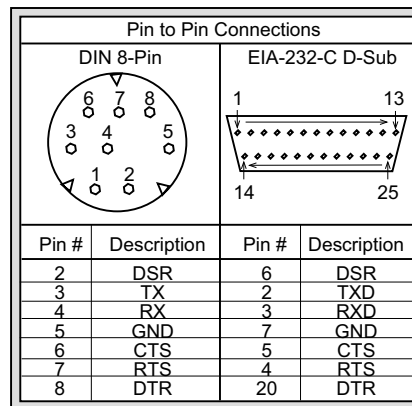
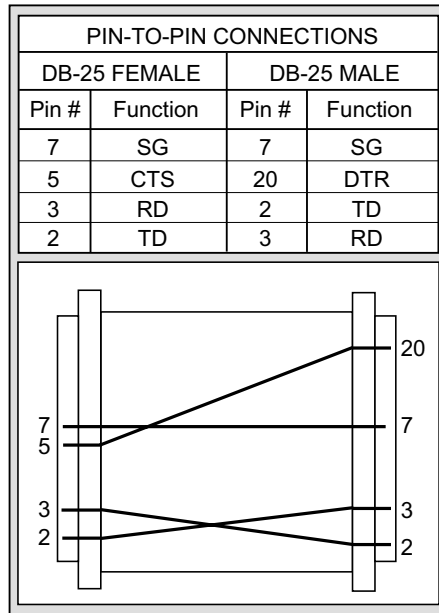

Figure 11 Printer Cable Pin Assignments
Figure 12 SS122C Null Modem Pin Assignments
To use the SS122C Null Modem Adaptor with other brands of printers, refer to Figure 12.
Refer to Figure 11 for a diagram of the pin-to-pin assignments of the DIN to EIA-232-C cable supplied by Sunrise Telecom. Refer to Figure 12 for the pin-to-pin assignments of the Sunrise Telecom Null Modem Adapter.
7. Plug a modem into the serial port. A 9600-baud error-correcting modem is highly recommended. Some functions such as VF MEASUREMENTS will only work properly if a 9600-baud modem is used. Refer to Figures 11 and 12 for cable pin-out. A breakout box, appropriate tools, and training will be needed to make sure the SunSet T10 is appropriately connected to the modem the first time it is setup.